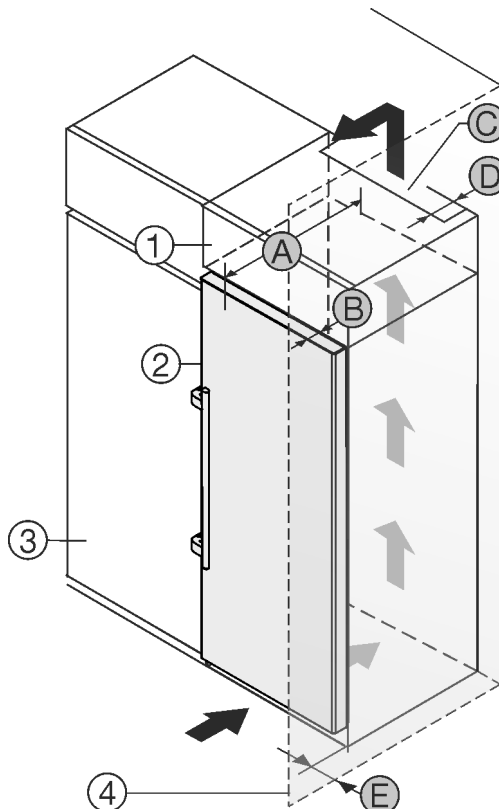

Fig. 1
You can place the appliance directly beside the kitchen cabinet *Fig. 1 (3)*.
There must be a ventilation shaft at the depth *Fig. 1 (D)* of the back of the top cupboard over the entire width of the top cupboard.
The cross section of the ventilation gap *Fig. 1 (C)* must be maintained below the ceiling.
If the appliance is set up with the hinges next to a wall *Fig. 1 (4)*, the distance between the appliance and the wall must be at least 57 mm. This is how far the handle protrudes when the door is open.
In order to be able to fully open the door, the appliance must protrude by the depth of the door *Fig. 1 (B)* from the front of the kitchen cabinet. Regardless of the depth of the kitchen cabinets *Fig. 1 (3)* and use of wall spaces, the appliance can protrude further.